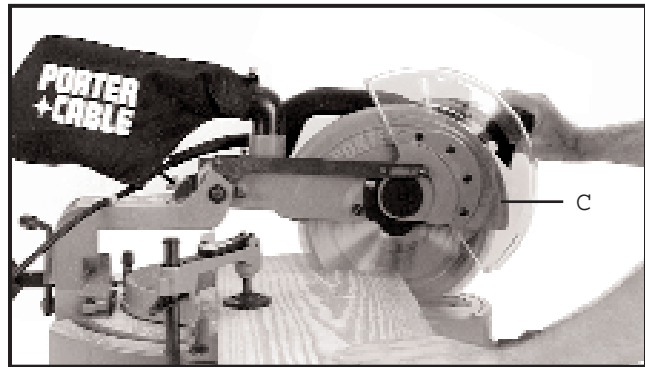

Fig. 42
4. Push the cuttinghead (C) Fig. 42, forward toward the fence, making the cut as shown.